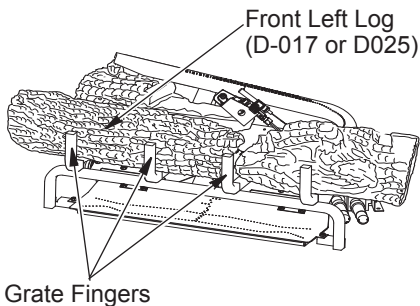

Figure 26 - Installing Front Left Log
3. Find the front left log (LMF42-SC: D017 or LMF48-SC: D025). See Figures 26, 26A, and 26B. The log has a rectangular slot on the bottom that fits on the black metal base as shown in figure 26A, page 20. The bottom of this log has a notch that fits over the square grate as shown in Figure 26B, page 20. Place the log on the base assembly as shown in figures.